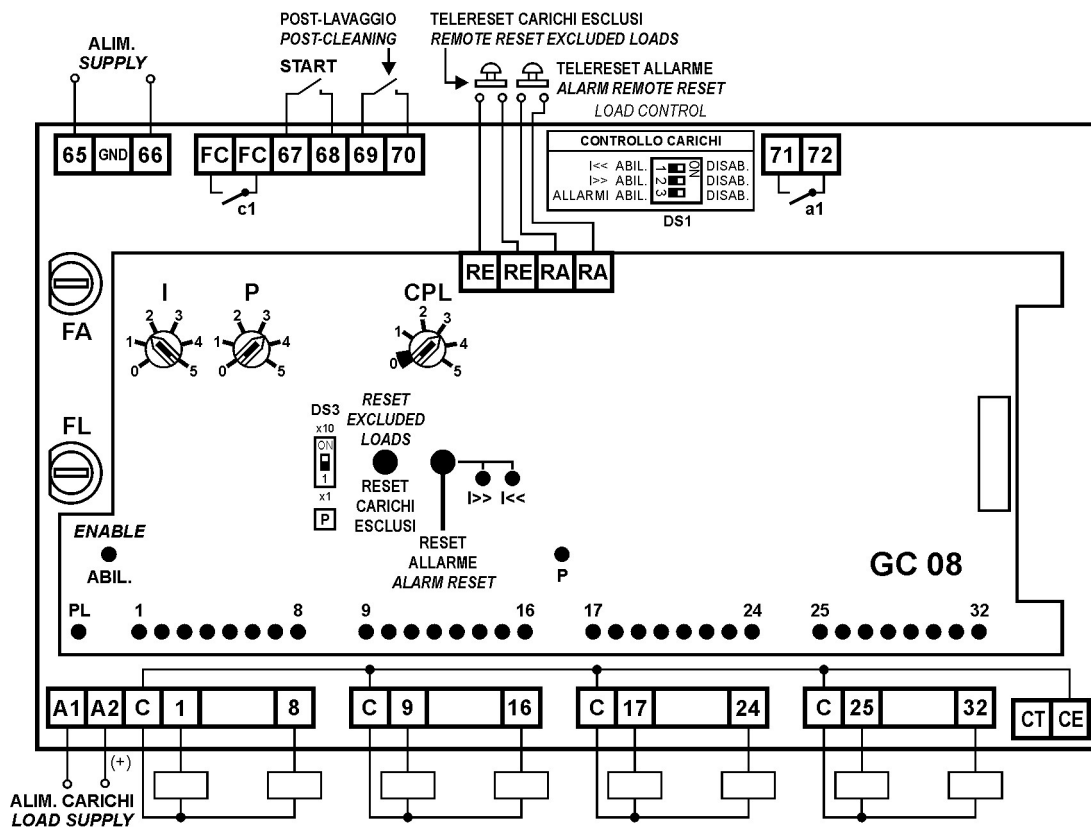

Fig. 4
- pins 1+8, 9+16, 17+24, 25+32 (V. Fig. 4) all the loads have a wire in common to be connected to the pin C, the other wire is connected to the pins 1, 2 etc....